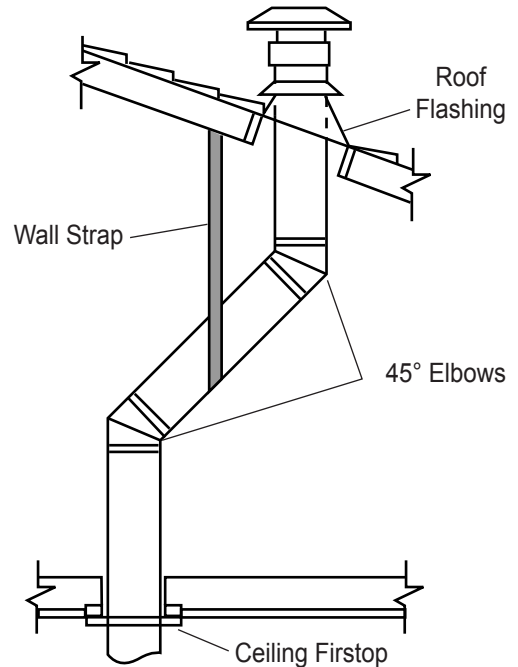

Figure 27 - Offset with Wall Strap and 45 Elbows
1. Determine the route your vertical venting will take. If ceiling joist, roof rafters or other framing will obstruct the venting system, consider an offset. See Figure 27 to avoid cutting load bearing members.